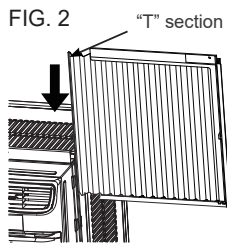

FIG. 2
B. Slide the free end "T" section of the panel directly into the cabinet as shown in FIG. 2. Slide the panel down. Be sure to leave enough space to slip the top and bottom of the frame into the rails on the cabinet.